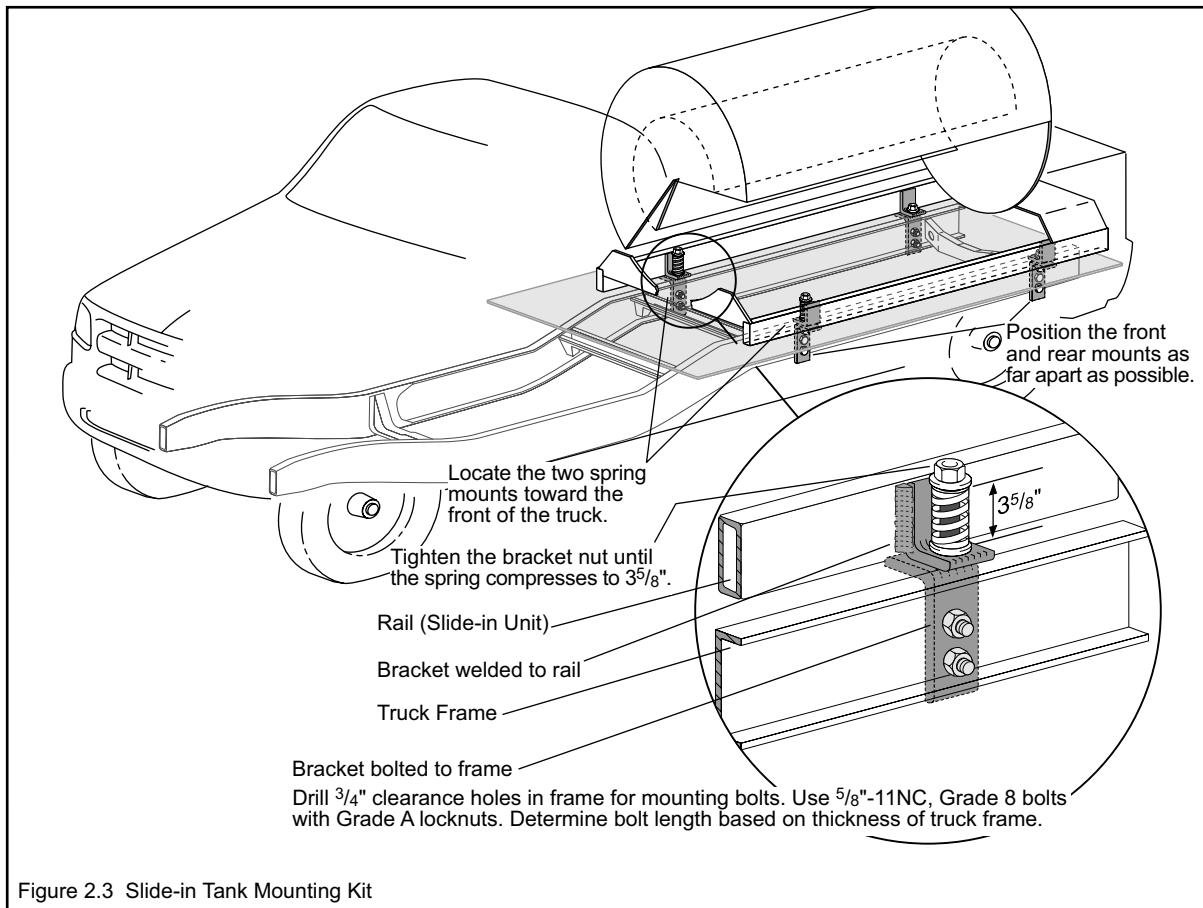

Figure 2.3 Slide-in Tank Mounting Kit
Following all relevant precautions, use the procedure below, while referring to Figure 2.3, to install the mounting kit:
- Bolt the lower brackets to the truck frame using $5/8$ "-11NC Grade 8 bolts. These bolts are not included in the mounting kit and must be purchased in the correct length for your specific installation. Use $5/8$ "-11NC crown-lock lock nuts with these bolts. Fasten the brackets to the outside of the truck frame rails with the short leg of the bracket pointing outward (Figure 2.3).